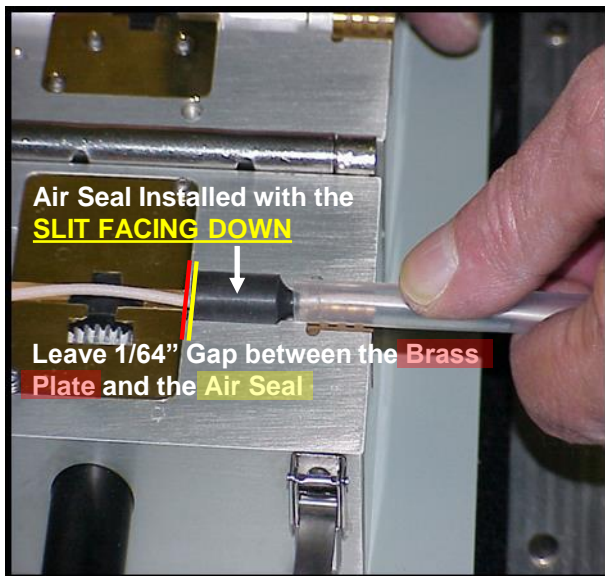

Figure 25
11.5 Push the Air Seal and 8mm Clear Tube “forward” and away from the lower Brass Plate. A “gap” of approximately 1/64” between the back of the Air Seal and the lower Brass Plate should be observed. Hold both ‘tube & seal’ in position by holding the 8mm Clear Tube steadily in place. This technique helps prevent pinching or cutting into the back of the Air Seal when the top half of the Blowing Head is closed. **See Fig. 25**